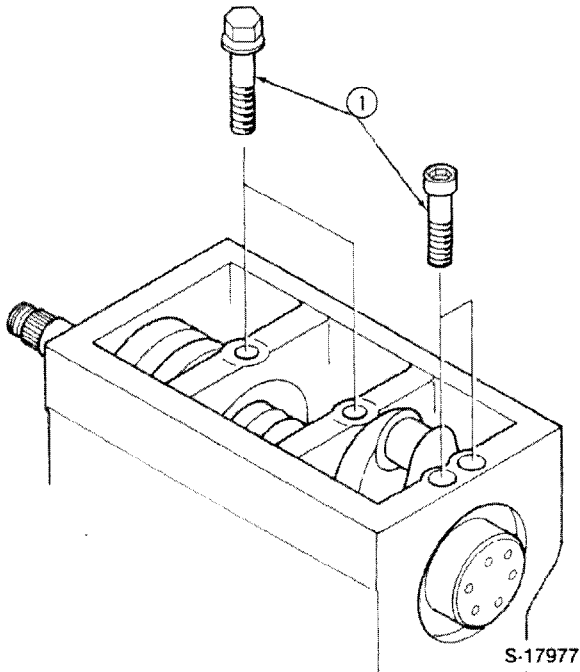

Figure 72
- Remove the crankshaft bearing holder retaining bolts, Figure 72.